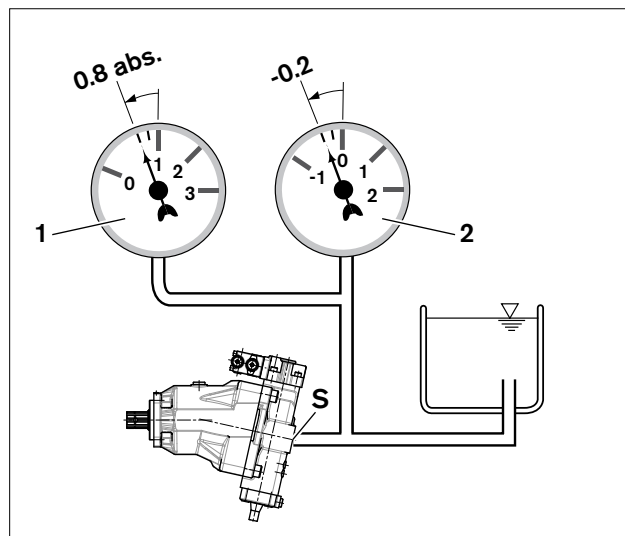

Fig. 7: Suction pressure
- ▶ Make certain that a minimum suction pressure of 0.8 bar absolute is present at port "S" during operation and on cold starts in all installation positions and installation locations for the axial piston pump, see Fig. 7. See data sheet for additional values.